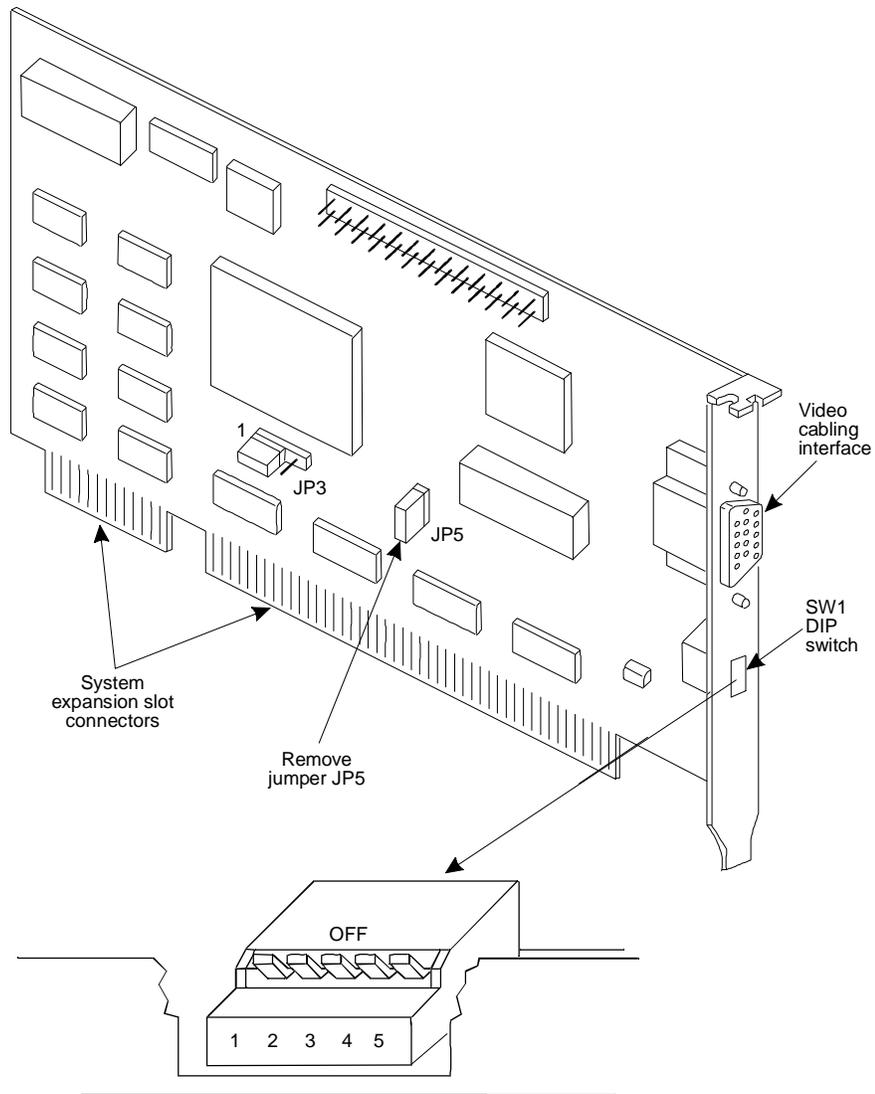

Figure 9-10. Video Controller Circuit Card, Model WDXLR831124
You will install one Video Controller circuit card in the MAP/100, model WDXLR831124 (Figure 9-10).
1. Position the circuit card in front of you with the gold fingers pointing down as shown in Figure 9-10.
3. Set all switches to the OFF position, as shown in Figure 9-10. Use the point of a pen or similar object (see the Caution statement below) to set the switches.
1. Locate Jumpers JP5 and JP3 on the circuit card (Figure 9-10).
You must also attach the monitor's cable to the video cabling interface port on the Video Controller circuit card. Figure 9-10 shows the location of that interface on the WDXLR831124 Video Controller circuit card.